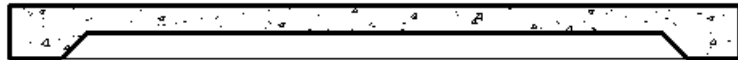

Figure 7–62
15. Close the dialog boxes to return to the view. The materials now match and the slab and slab edge display joined, as shown in Figure 7–62.